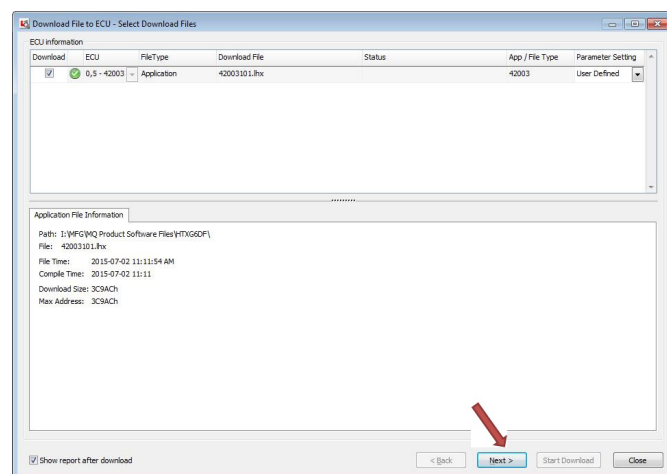

Figure 26. Start Download Screen
8. Click "Next" then "Start Download" button (Figure 26).